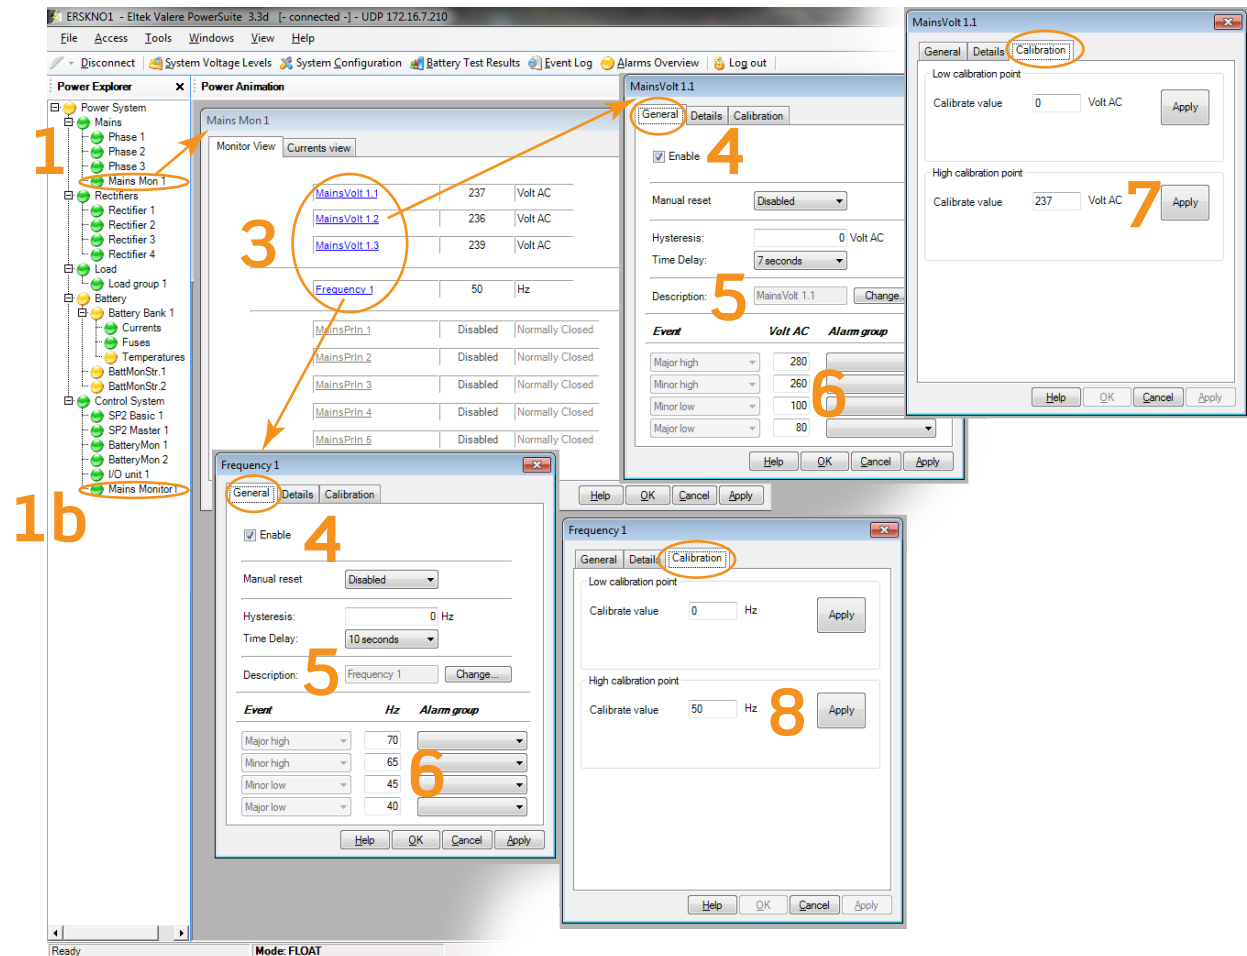

Figure 9. Example of configuration in PowerSuite of AC Mains Monitor's voltage sense inputs
In general, the connected AC Mains Monitor node(s) are displayed in the PowerSuite's Power Explorer pane, under the Mains node (1) and under the Control System node (1b), see *Figure 9 on page 18*.